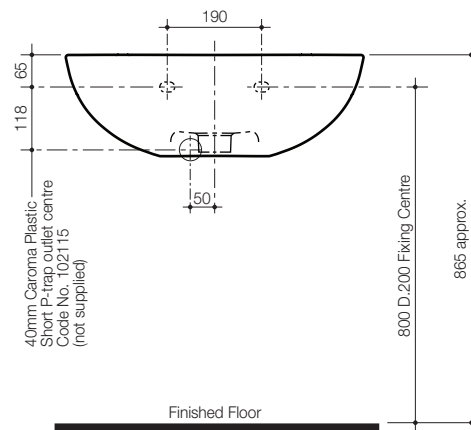

Fig. 1
For timber stud walls, noggin and studs must be positioned at a height to allow for the location of fasteners as detailed in **Fig. 1**.
- 1- Mark Fixing Screw hole position on finished wall at the recommended height as detailed in **Fig. 1**.